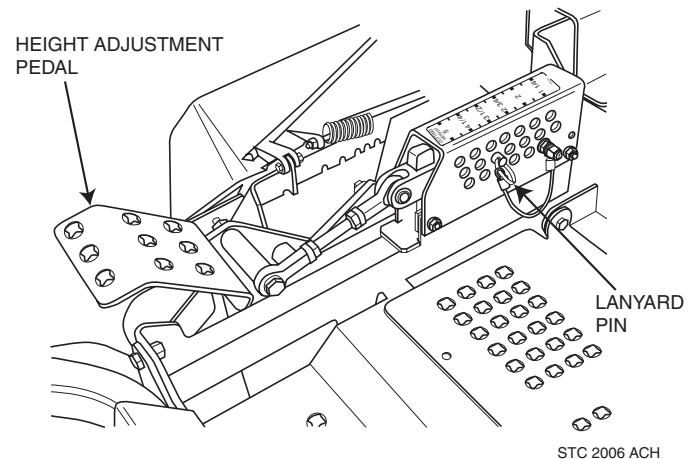

Figure 4-5. Adjusting Cutting Height
2. Push the cutting height adjustment foot pedal all the way forward using your right foot until it locks in place. See Figure 4-5.
3. Insert the lanyard pin into the cutting height index at the desired cutting height. Push forward on the deck lift foot lever, hold in place and pull back on the deck release lever. See Figure 4-6. Slowly release the foot pedal. A deck height decal is located on the cutting height index as an aid in adjusting the deck to the desired height. See Figure 4-5.